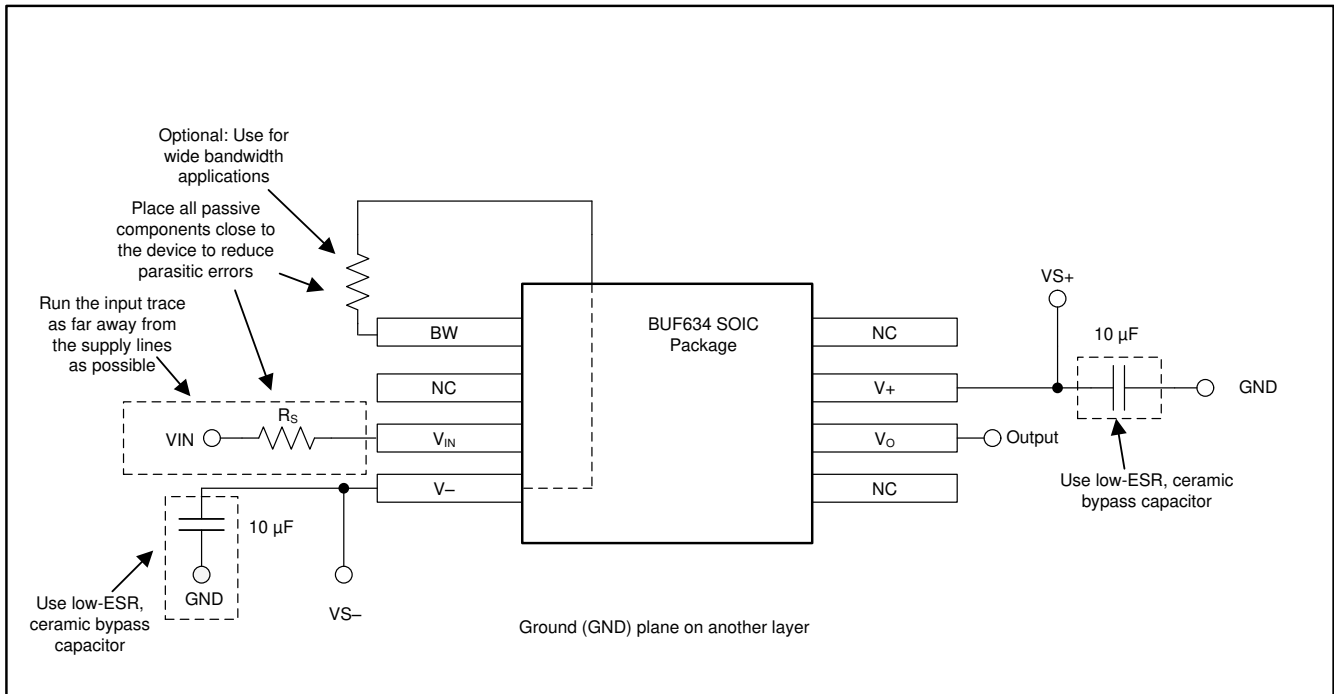

图 8-9. BUF634 Layout Example
- Place the external components as close to the device as possible. As illustrated in 图 8-9